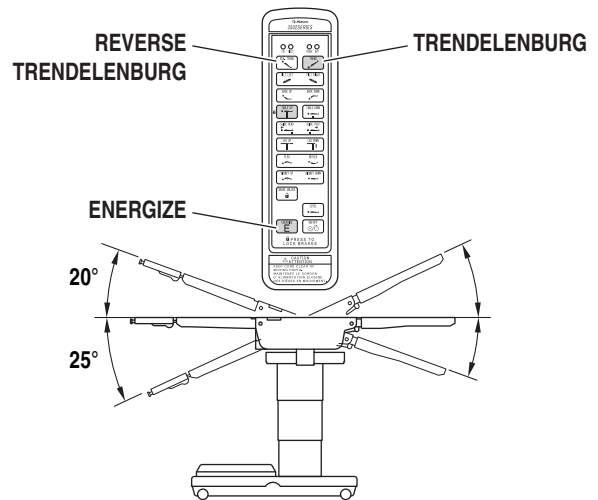

Figure 2-8. Trendelenburg Positioning
b. Trendelenburg To place the table in a Trendelenburg (head down) position, press the ENERGIZE button and then the TREND button (figure 2-8). Trendelenburg positioning of up to 25° may be obtained. To place the table in a reverse Trendelenburg (head up) position, press the ENERGIZE button and then the REV TREND button. Reverse Trendelenburg positioning of up to 20° may be obtained.